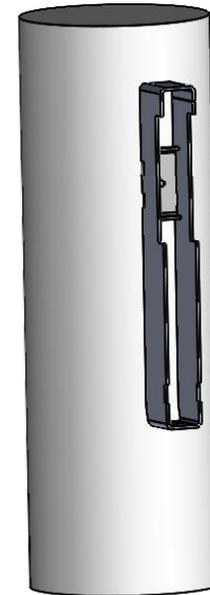

Figure 1
2. Position the PBSCM bracket on the wood pole at the desired location and height. Using the 1 1/2" long lag screw (1/4-10X1-1/2XXHHGV), a helical spring washer (HSR1/4HS), and a flat washer (FPA1/4-NSS) insert the screw through the hole of the center mounting plate of the bracket, and tighten until snug. (Figure 1)